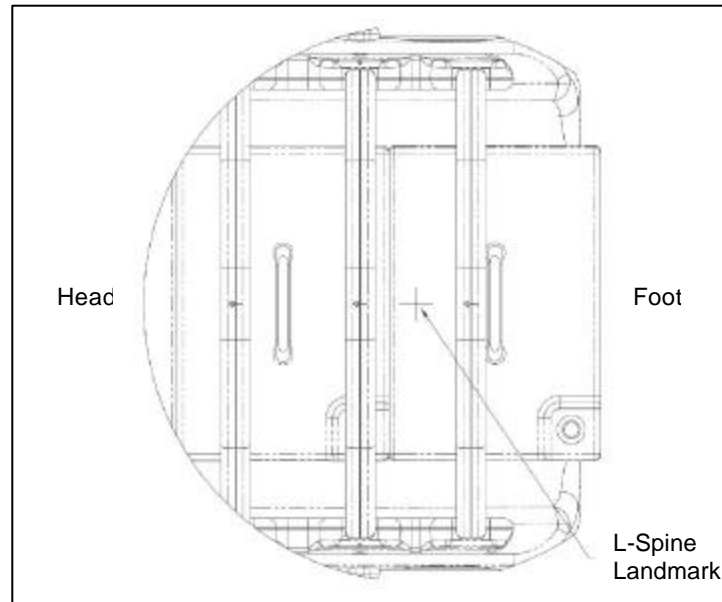

Figure 13: L-Spine landmark.
- Landmark the coil in the center of the L-Spine section (see *Figure 13*).